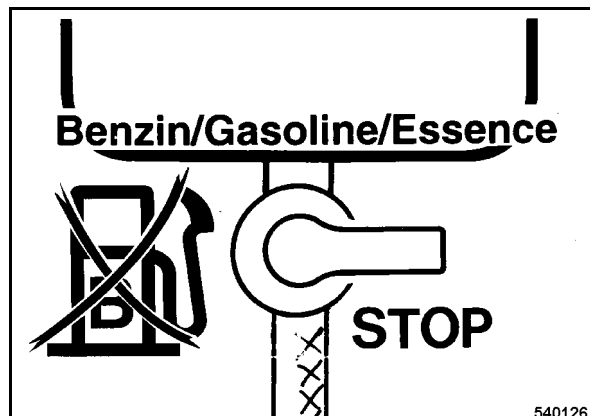

Fig. 35
- Set the fuel valve (Fig. 35) to "STOP" position (closed).